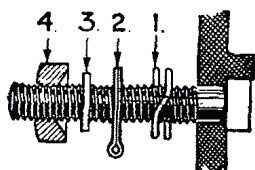

Fig. D.5.
All four connections, namely, the two ends of the earthing tag and the two ends of the coil, should be soldered. The coil end leading to the terminal should be soldered to its tag and not to the retaining nut. In the case of the terminal screw which holds the bakelite cover in position, similar considerations apply, the assembly being: spring washer (1), wiring tag (2), lead washer (3), and recessed nut (4). (See Fig. D.5.) A lead washer has been found necessary at this point as some few cases of bad connection have been found. Under no circumstances must the spring washer be omitted, or the assembly shortened in any way. Any attempt to do so is likely to lead to breakage of the pedestal when the nut retaining the cover in position is tightened up.